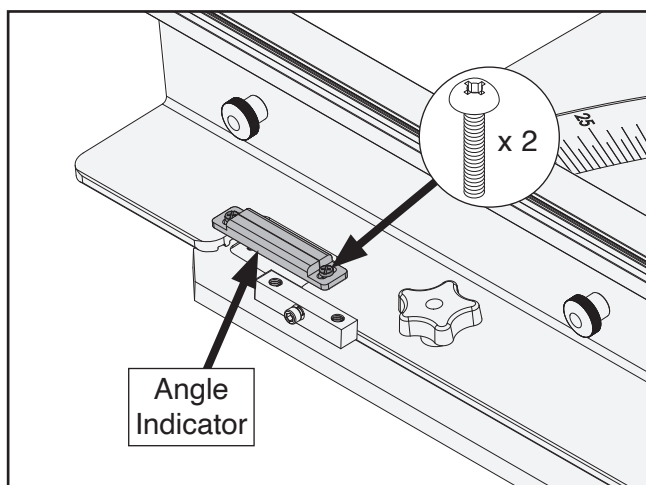

Figure 14. Location of angle indicator and screws.
28. Check fence angle indicator shown in **Figure 14**.
29. Loosen (2) screws shown in **Figure 14**, adjust indicator to 0°, then tighten screws to secure.